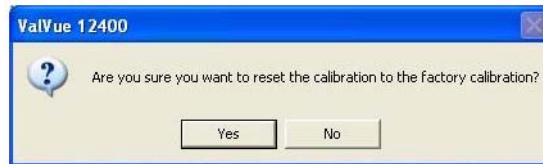

Figure 171 Reset Factory Calibration Dialog
1. Click **Reset to Factory**. ValVue 12400 displays a dialog (Figure 171).